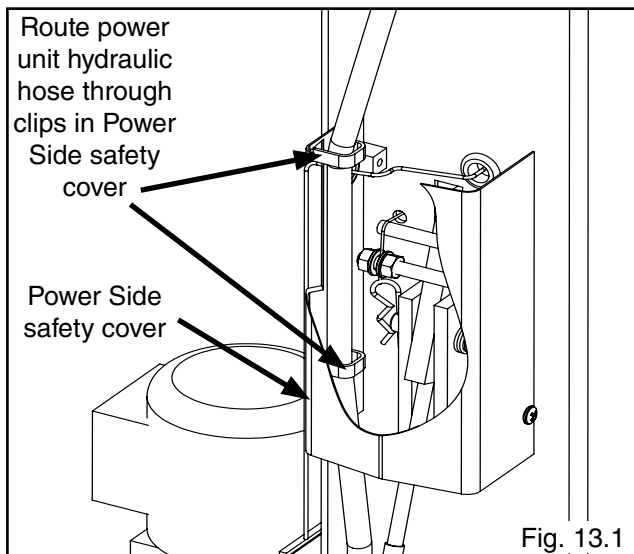

Fig. 13.1
1. With Power Side safety cover loosely positioned, route power unit hydraulic hose through clips in Power Side safety cover. (See Fig. 13.1)